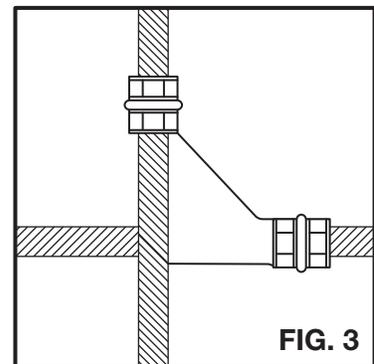

FIG. 3
7. Final crimp shown in Figure 3.